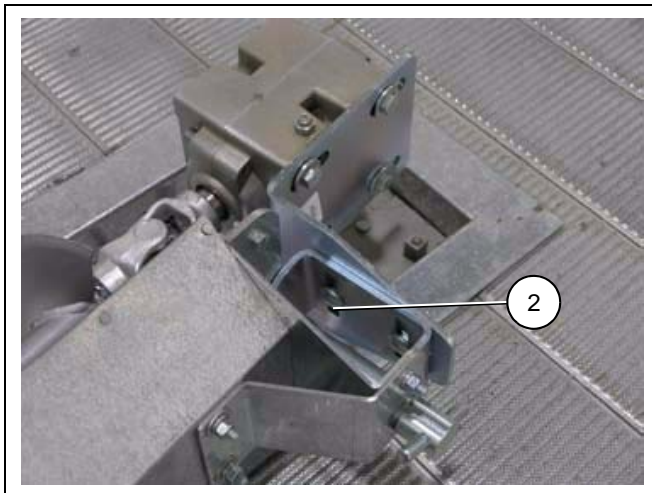

Figure 4U
3. The height of the sweep back plate can be adjusted both at the wheel and at the drive end. (See Figures 4U and 4V.)